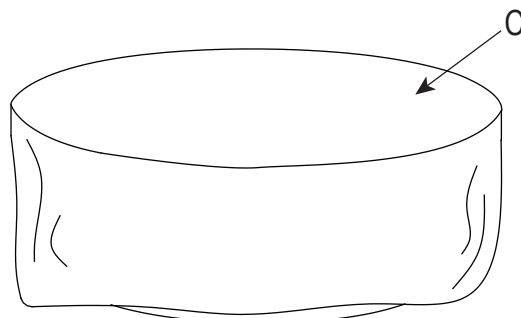

Figure 5
5. Cover the fire pit with the outdoor Weather cover (C) when not in use to protect it from the elements or when fire pit is cool COMPLETELY after the use (See Figure 5).